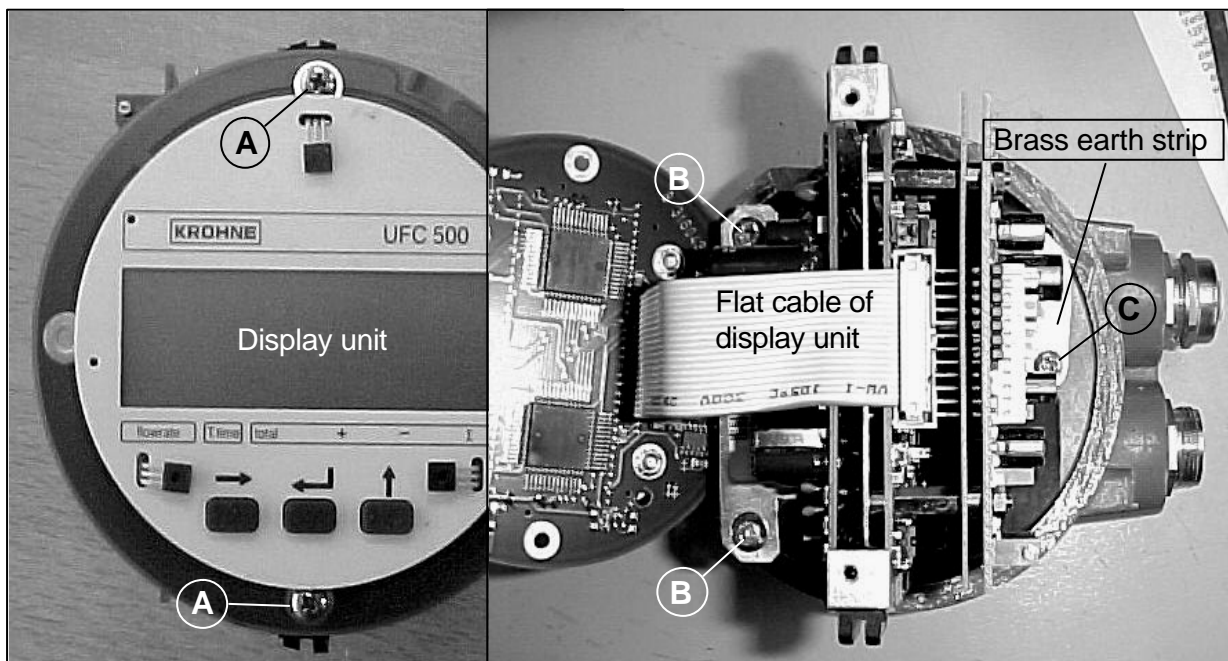

Figure 5: Display unit (left) / Electronics unit after removal of display unit (right).
- ◆ The brass grounding strip at the back of the electronics unit **must** be securely screwed to the housing (back-end of electronics compartment) by screw **C** (see Figure 5 below). The electronics unit is screwed into the electronics compartment by two screws **B**. Before screws **B** and **C** can be accessed, the display unit must be removed via screws **A**.
2. Unscrew the two screws **A** (see figure 5 in section 4.1) of the display unit and turn display unit carefully aside or remove the unit completely by taking out the flat cable connector.
2. Unscrew the two screws **A** (see figure 5 in section 4.1) of the display unit and turn the display unit carefully aside.
2. Unscrew the two screws **A** (see figure 5 in section 4.1) of the display unit and disconnect the display unit via the flat cable connector (see the right picture of Figure 5 on the previous page).